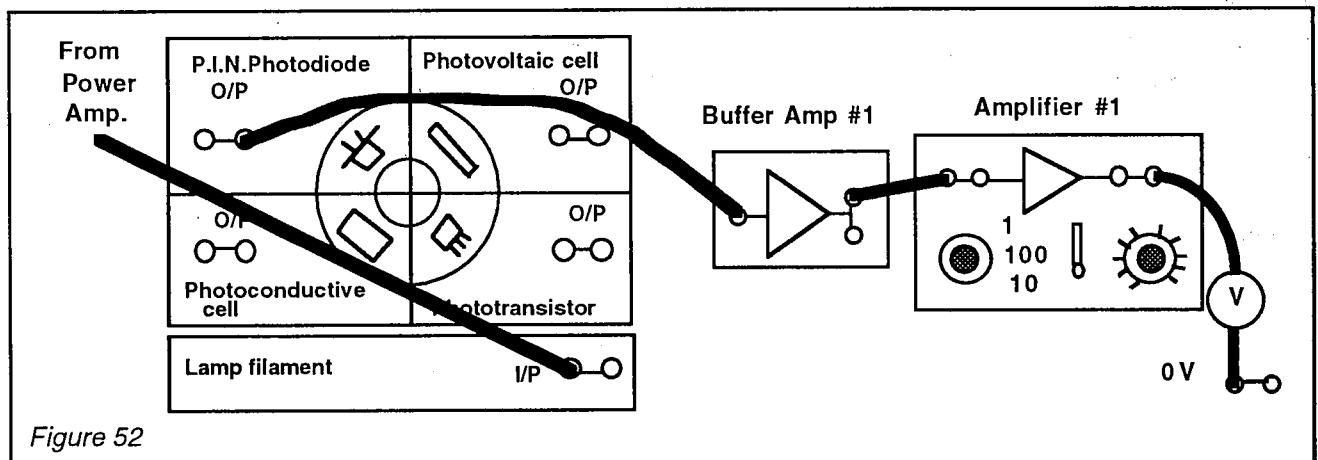

Figure 52
- Now connect the output from the P.I.N. photodiode to a buffer amplifier and variable gain amplifier as shown in Fig 52.